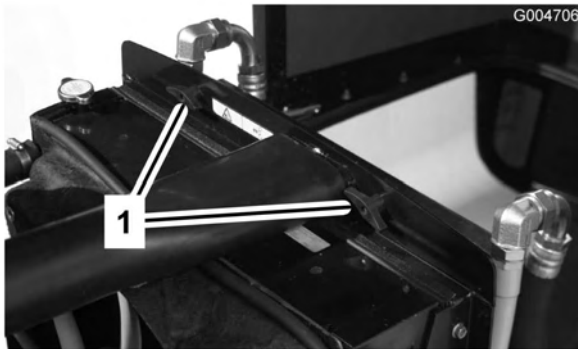

Figure 60
2. Remove the knobs (Figure 60) securing the oil cooler to the frame.